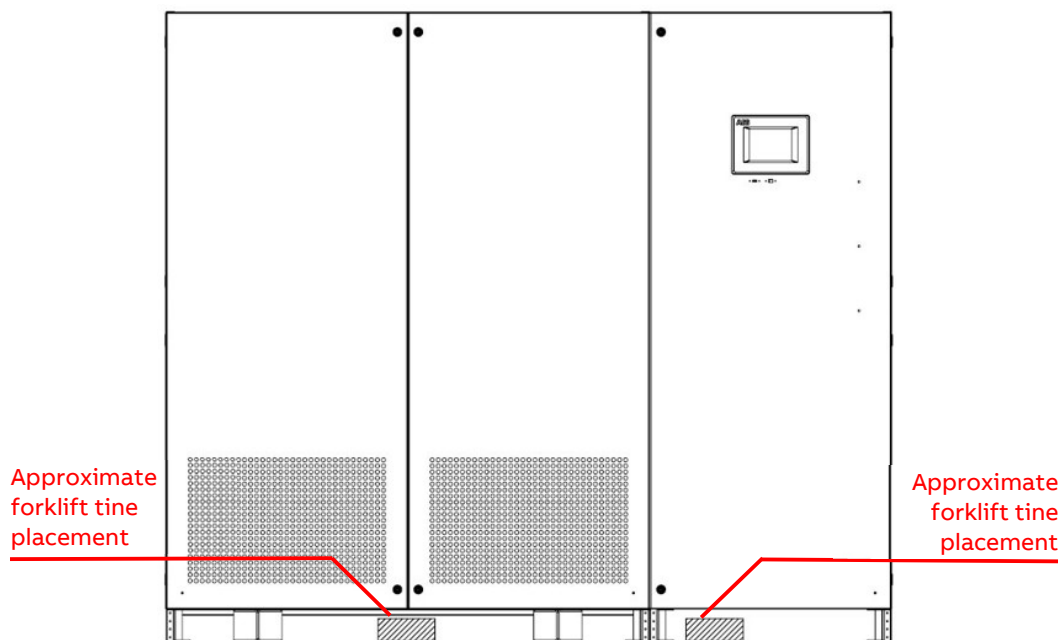

Figure 4.5.1 - Designated lifting points
- Do not exceed a ten (10) degree tilt by forklift or incline ramp.
- Set the packaged units in a level area with sufficient room for removal from the shipping pallet. Remove external shipping material; locate and remove the bolts at the base of the unit (used to secure unit to the pallet). Using a forklift, raise the unit off the pallet and onto the floor. The PDU is designed to be lifted from under the cabinet. Place forklift tines at the locations shown in figure 4.5.1 for proper handling. Lifting points are also marked by label on the original packaging. If the unit shows signs of being unbalanced, halt the process, and reposition the forklift.